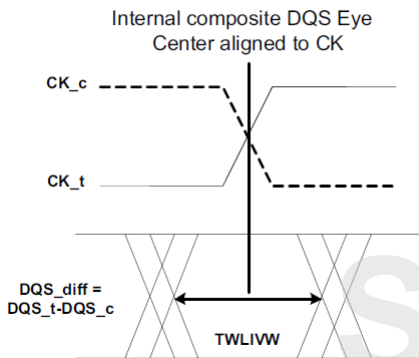

Figure 25. DQS_t/DQS_c to CK_t/CK_c timings at the DRAM pins referenced from the internal latch
- 28) t_{WLIVW} is defined in a similar manner to t_{DQSV}_{Total} , except that here it is a DQS input valid window with respect to CK. This would need to account for all VT (voltage and temperature) drift terms between CK and DQS within the DRAM that affect the write-leveling input valid window. The DQS input mask for timing with respect to CK is shown in Figure 25. The "total" mask (t_{WLIVW}) defines the time the input signal must not encroach in order for the DQS input to be successfully captured by CK with a BER of lower than tbd. The mask is a receiver property and it is not the valid data-eye.